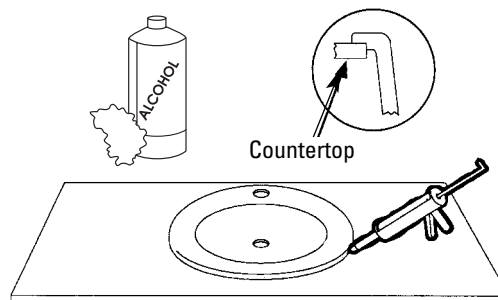

Figure 5
- Position the bowl on the sheet (see Figure 5).